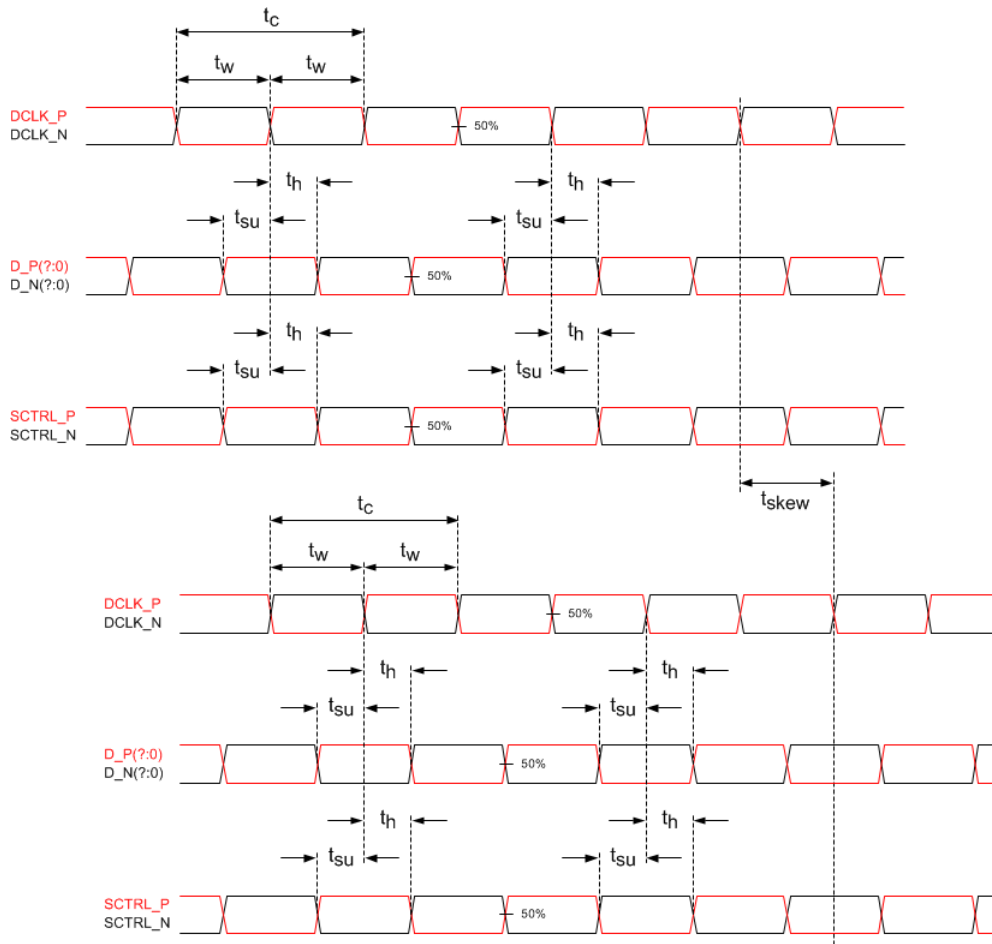

Figure 5. Timing Requirements
- See LVDS Timing Requirements in Timing Requirements and Figure 5.
(1) See Figure 5 for timing requirements for LVDS.
(2) Channel A (Bus A) includes the following LVDS pairs: DCLK_AN and DCLK_AP, SCTRL_AN and SCTRL_AP, D_AN(15:0) and D_AP(15:0).
(3) Channel B (Bus B) includes the following LVDS pairs: DCLK_BN and DCLK_BP, SCTRL_BN and SCTRL_BP, D_BN(15:0) and D_BP(15:0).